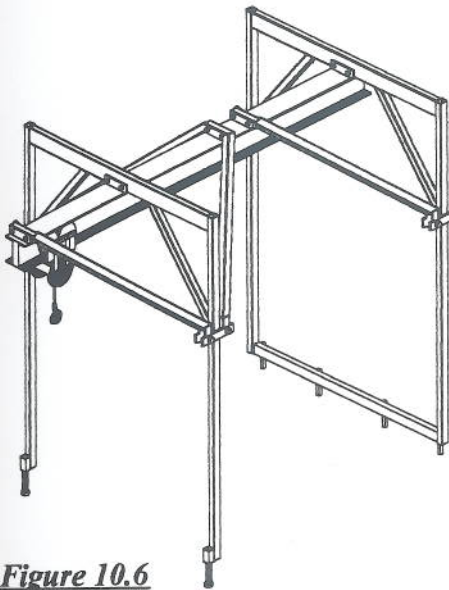

Figure 10.6
STEP 3 (*Figure 10.6*)
- 1 - Install (3) "V" shaped stiffeners arms.